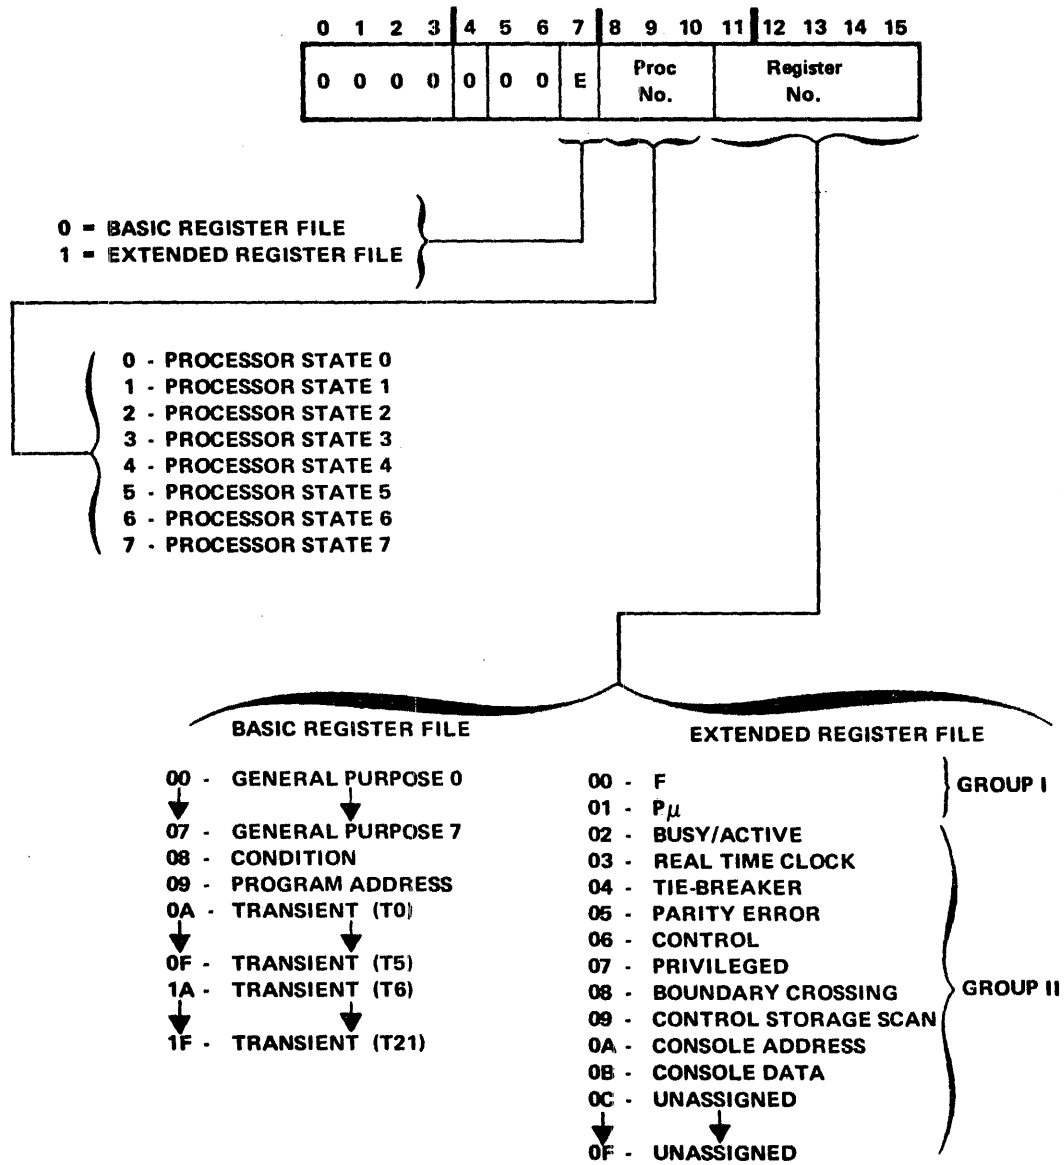

Figure 3-1. Register File and Associated Register Addresses
2. Set processor state number and number of the register in basic file or extended file (Group I or II\*) into the CONSOLE ADDRESS REGISTER SELECT pushbuttons. Addresses of basic file and extended file, Groups I and II are listed in Figure 3-1.
2. Set processor state number and number of the register in basic file or extended file (Group I or II\*) via the CONSOLE ADDRESS REGISTER DISPLAY pushbuttons. Addresses of basic file and extended file, Groups I and II, are listed in Figure 3-1.